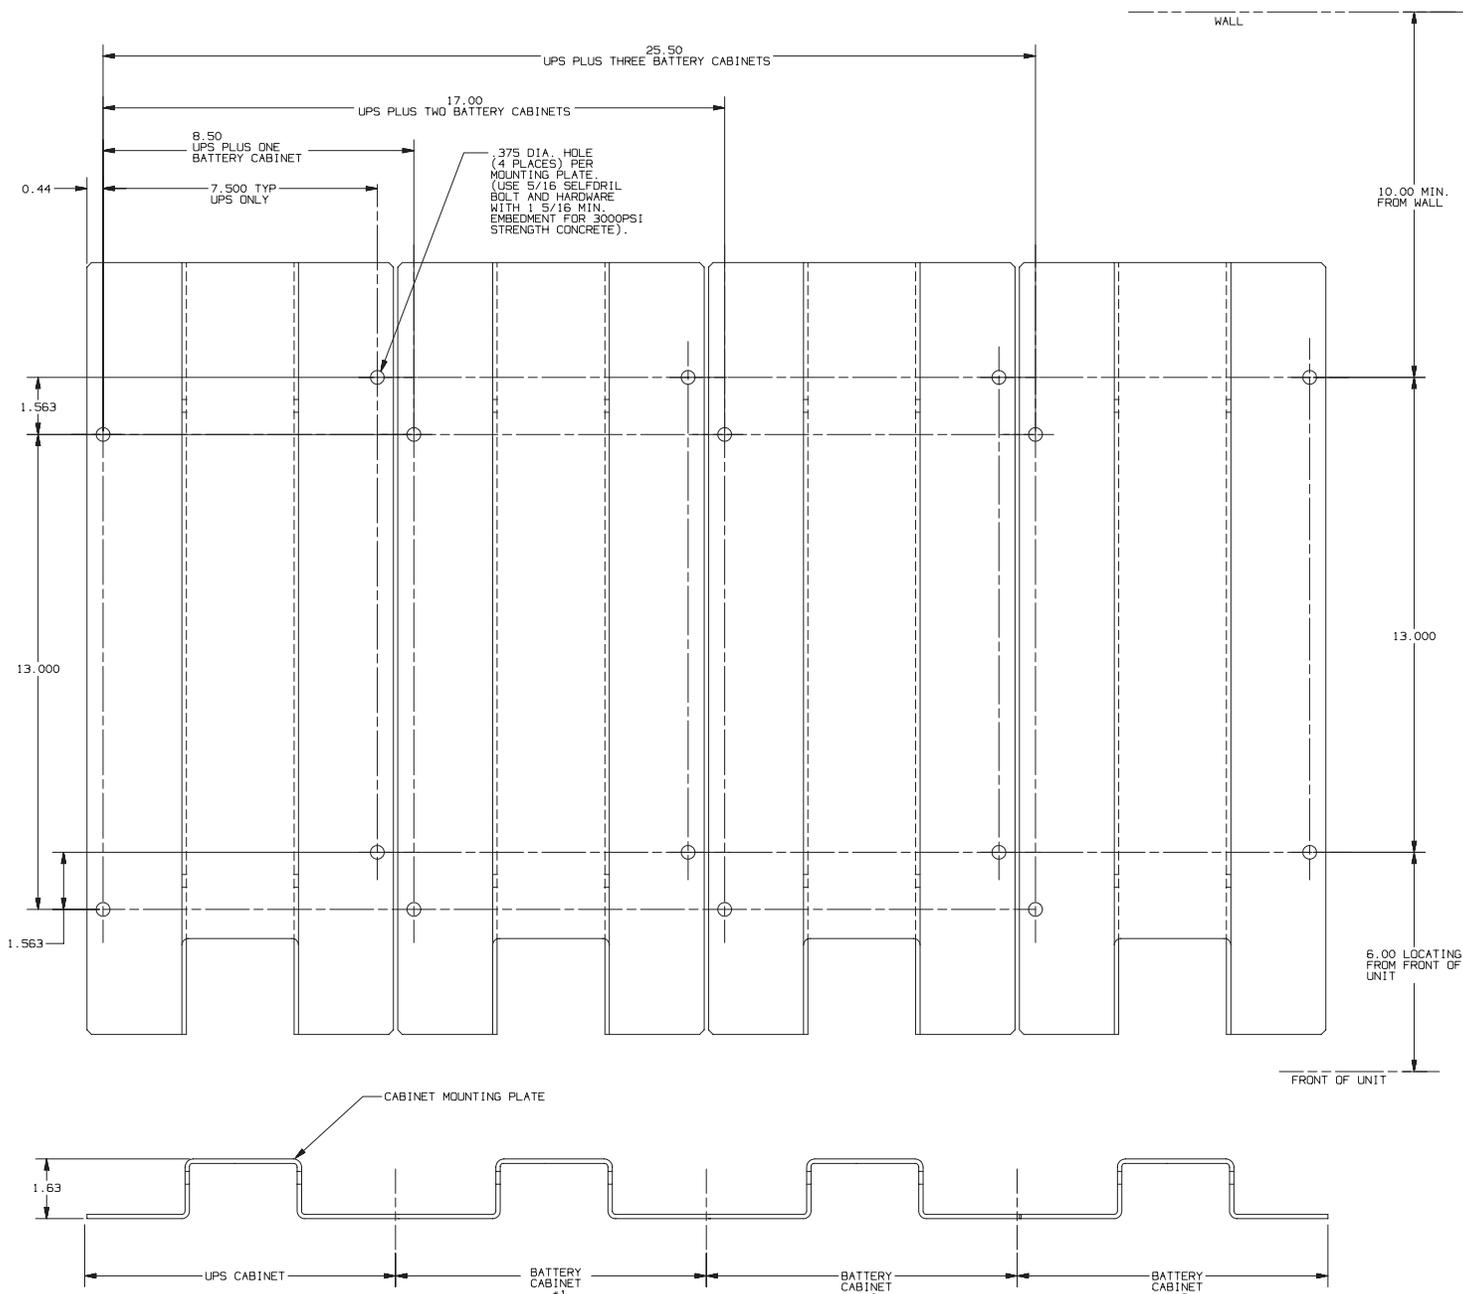

Figure 24. I/O Seismic Installation Mounting Pattern
- A seismic installation of the UPS requires that the mounting plates be bolted to the floor. See Figure 24 for a detailed drill and mounting pattern. If a seismic installation is not required, it is not necessary to bolt the mounting plates to the floor.